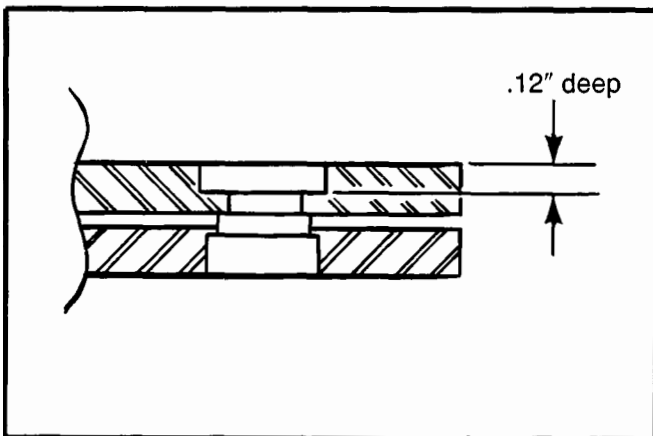

Figure 3.
3. Check the clutch disc for wear. See Figure 3.